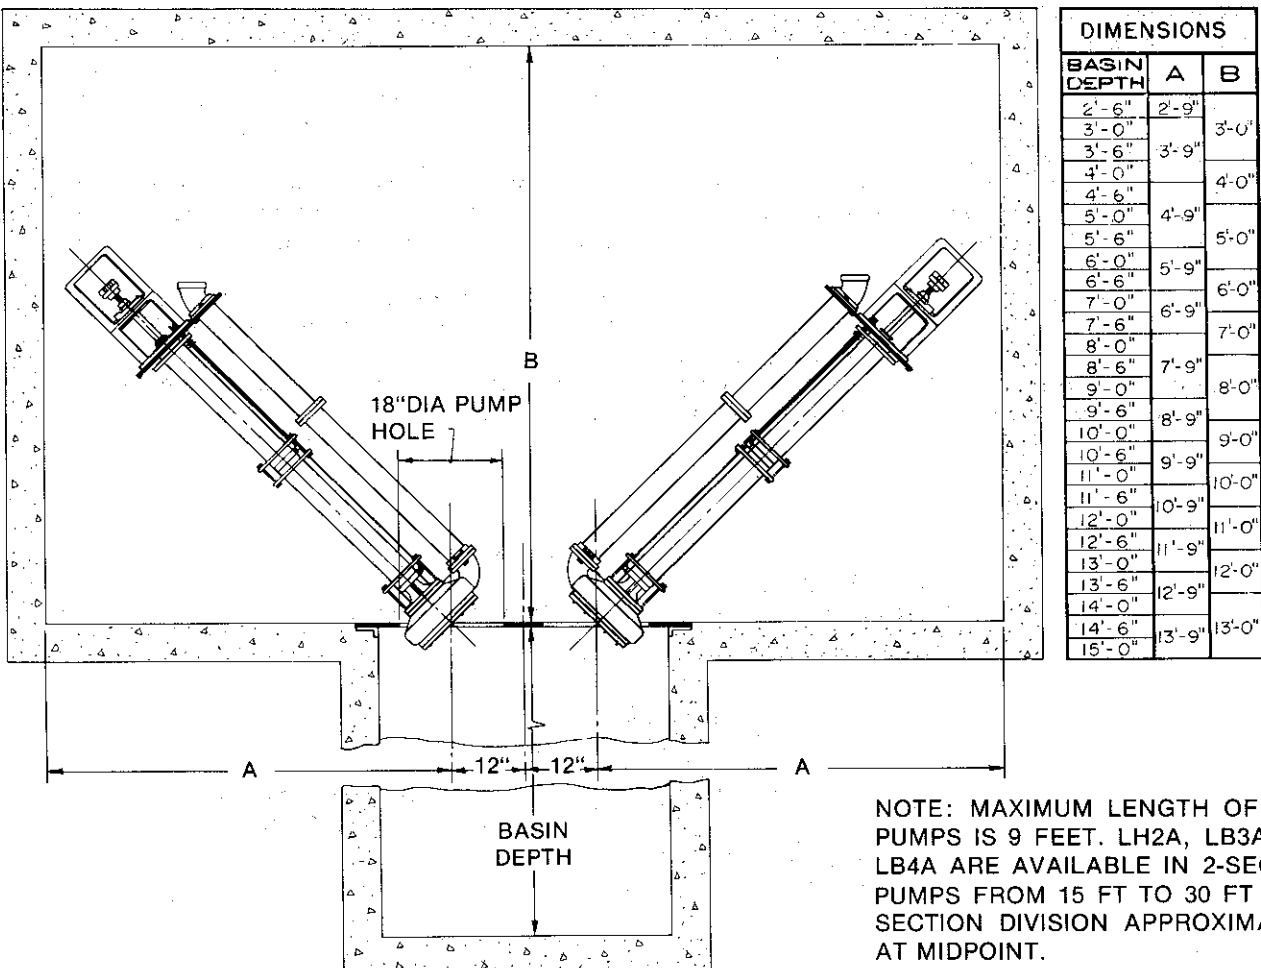

Figure 1. Pump Room Clearance for Installation and Removal of Vertical Sump Pumps
BASIN COVER: Set the basin cover on the basin, locating pump discharge connection as required. Use a pliable, non-hardening sealer at the split (if that type cover is used) and install and tighten flange bolts. If a basin cover with manhole or access hatch as shown in figure 1 is used, the cover may be permanently set before pump installation.
2. Using a suitable hoist or lifting means, ease the unit slowly through the basin cover hole (see figure 1) and lower the pump into the basin.